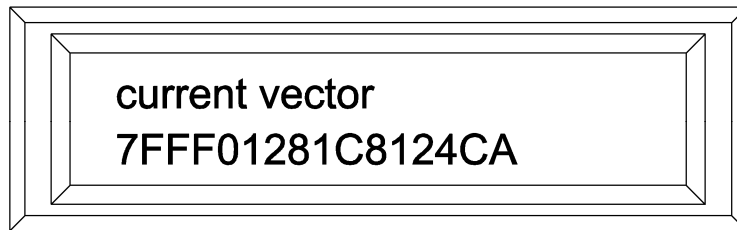

Figure 3.18. Displaying the current vector.
- Step 4.** Press the “▼” button three times and the current vectors are shown (*figure 3.18*).